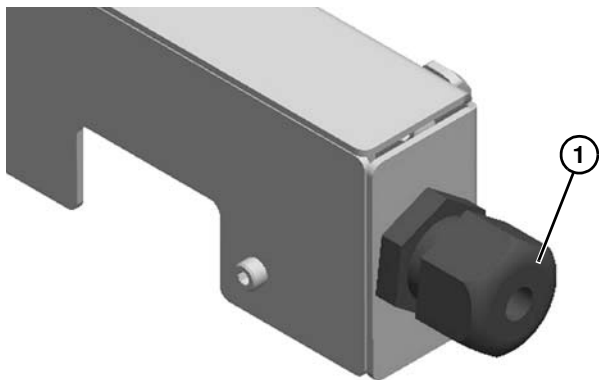

Figure 31
- For remote controls, a cord grip (**Figure 31, item 1**) is provided to accommodate 4.3 - 11.4 mm diameter cords.